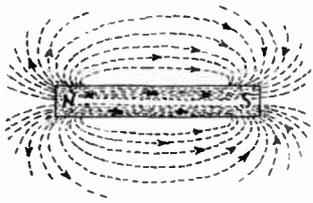

FIGURE 1
The attraction of unlike poles and repulsion of like poles is due to the action of the magnetic fields. In Figure 1 we saw the pattern of the magnetic field around a bar magnet. In Figure 3 we see the pattern of the magnetic field if two bar magnets are held with their north poles adjacent. Notice how the fields oppose each other, trying to force the magnets apart.
There are three circuit arrangements which may be employed. These are; series, parallel, and series-parallel. Figure 1 illustrates a battery and three resistors connected in these three circuit arrangements. Figure 1(A) illustrates a series circuit in both the pictorial and schematic form. Figure 1(B) illustrates the parallel circuit and Figure 1(C) illustrates the series-parallel circuit.
The current paths should be traced in a circuit to determine whether the arrangement employed is series, parallel, or series-parallel. If only one path is provided for the current from the negative terminal of the voltage source through the circuit to the positive terminal of the voltage source, the arrangement is a series circuit. For example, note in Figure 1(A) that the current leaves the negative terminal of the battery, flows through  $R_1$ , then through  $R_2$ , then through  $R_3$ , and returns to the positive terminal of the voltage source. Since all of the current flows through each component of the circuit this arrangement is a series circuit.
The current paths illustrated by the dotted lines in Figure 1(B) show that this circuit represents an entirely different arrangement than that of Figure 1(A). Notice that a portion of the current leaves the negative terminal of the battery, flows through  $R_1$  and returns to the positive terminal of the battery. Another portion of the current leaves the negative terminal of the battery, flows through  $R_2$  and returns to the positive terminal of the battery. At the same time a third portion of current leaves
the negative terminal of the battery, flows through  $r_3$  and returns to the positive terminal of the battery. It is evident therefore, that more than one path is provided for the current in the circuit of Figure 1(B) and this arrangement is called a parallel circuit.
The arrangement illustrated in Figure 1(C) is called a series-parallel circuit, as a portion of this circuit consists of a parallel circuit, but this parallel circuit is in series with the remainder of the circuit. As illustrated by the current paths in Figure 1(C), a portion of the current leaves the negative terminal of the battery and flows through  $R_1$ . At this same time a portion of the current flows from the negative terminal of the battery through  $R_2$  joining the current that flows through  $R_1$  at the junction of these two resistors and  $R_3$ . The combined current then flows through  $R_3$  and returns to the positive terminal of the battery. Thus, the parallel combination of  $R_1$  and  $R_2$  is in series with  $R_3$ . These three figures should illustrate the manner in which the current path, or paths, should be traced to determine whether a circuit is a series, parallel, or series-parallel arrangement.
us now arrange a circuit as illustrated in Figure 3(A) so that the 3 resistors used in the circuits of Figure 2 are connected to a single 12 volt battery. It will be noticed that this forms a circuit similar to the one shown in Figure 1(B) and, since three paths are provided for the current, this forms a parallel circuit.